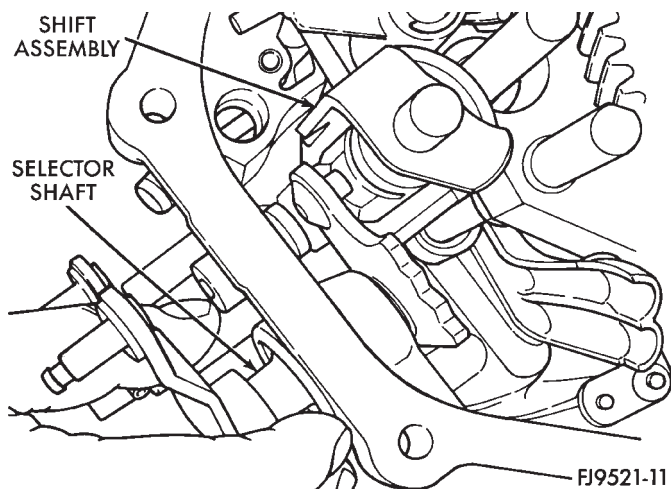

Fig. 79 Selector Shaft
(16) Turn selector shaft into slot on blocker assembly (Fig. 79).